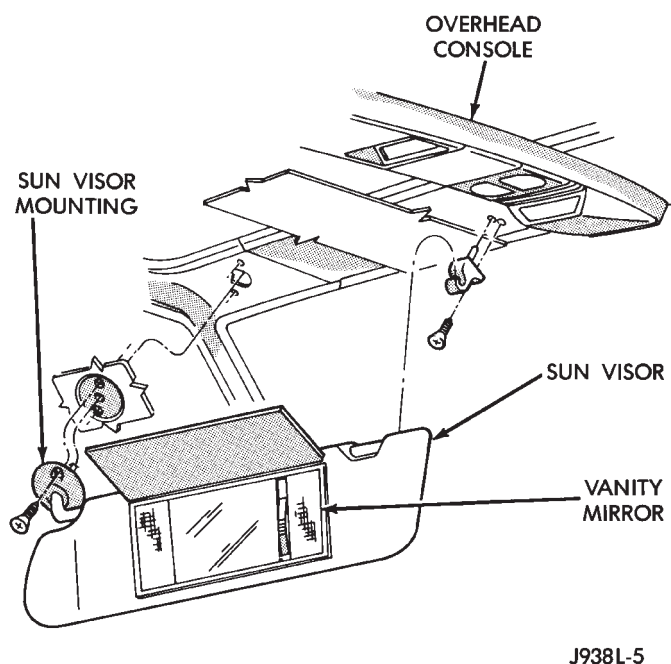

Fig. 24 Sun Visor
- (3) Remove sunvisors from front of roof panel (Fig. 24). Disconnect vanity lamp wiring (if applicable)
(3) Install sunvisors (Fig. 24).
- (1) Remove screws that attach sunvisor arm support bracket to headliner and roof panel (Fig. 24).
- (2) Detach sunvisor from support bracket (Fig. 24).
- (3) Remove sunvisor from vehicle.
- (4) Remove retaining screw and support bracket (Fig. 24).